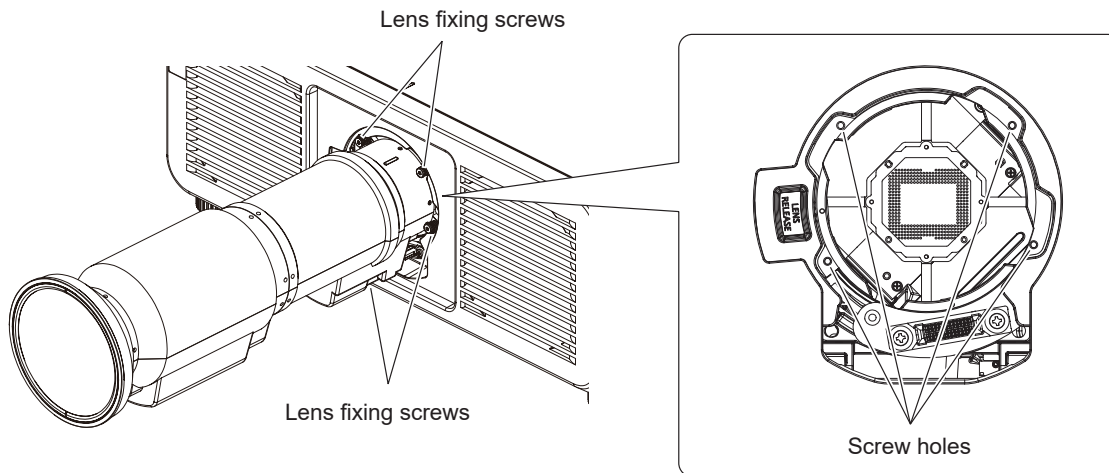

Fig. 4
- 4) **Secure the projection lens with the lens fixing screws. (Fig. 4)**